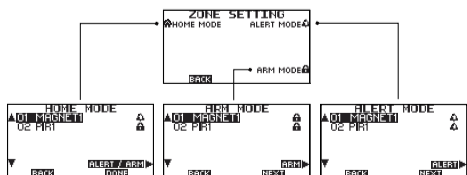

Fig. 5 Zone Setting
- Go the "SETTINGS" on panel and select the "ZONE SETTING" section. There will be three different modes: "HOME", "ALERT" and "ARM" (see Fig. 5). You can activate or disarm the sensors in these modes.